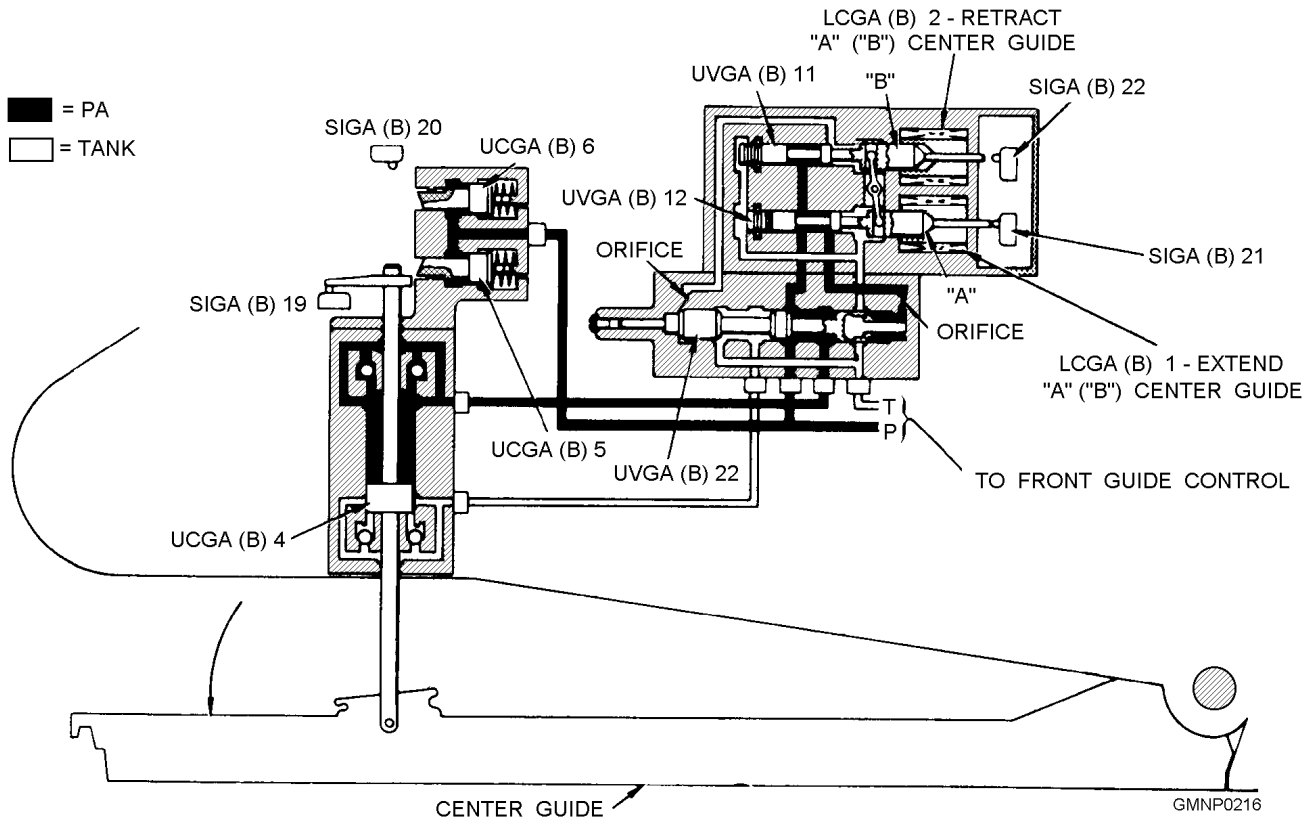
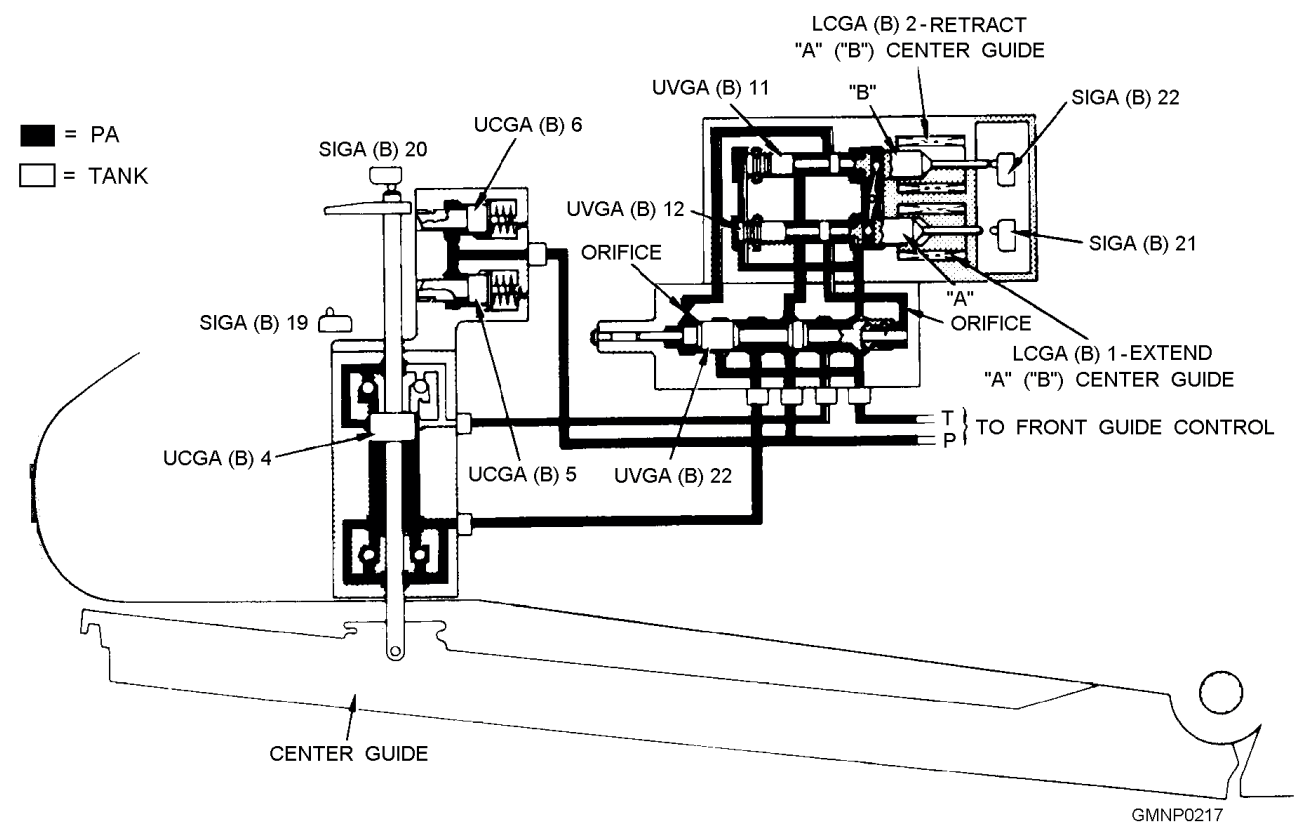
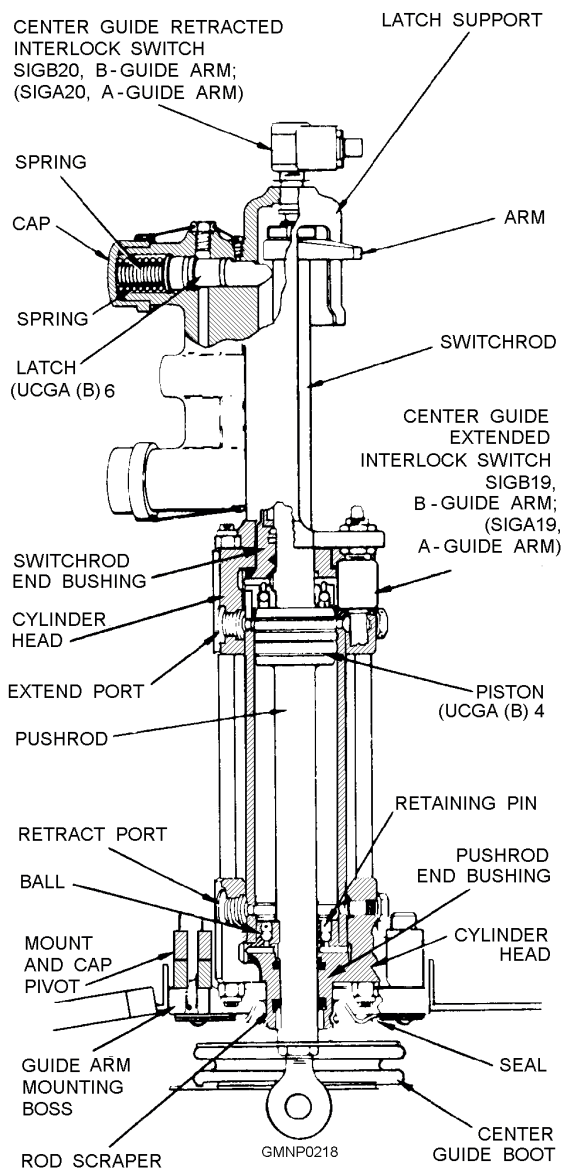

Figure 4-24.—Center guide extended; hydraulic schematic.
Figure 4-25.—Center guide retract; hydraulic schematic.
Figure 4-26.—Center guide hydraulic cylinder.
We will first discuss the hydraulic components associated with the center guide. We will then extend the unit from its normally stowed position. As we describe these hydraulic-mechanical operations, you may find it helpful to compare the two hydraulic schematics in figure 4-24 (extend cycle) and figure 4-25 (retract cycle).
The solenoid assembly (shown in figures 4-24 and 4-25) is identified as LCGA(B)1 and LCGA(B)2. It is a detente type of unit that is mounted to directional valve UVGA(B)22. Hydraulic fluid from the solenoid assembly controls the position of the directional valve.
The center guide cylinder (fig. 4-26) contains a movable piston UCGA(B)4 and four ball type of check valves. These check valves function to restrict fluid flow and slow down or cushion part of the stroke of the piston. The lower pushrod of the piston connects to the center guide casting and moves it. The upper switchrod (and arm) of the piston actuates the extended and retracted interlock switches SIGA(B)20 and SIGA(B)19, respectively. The two spring-loaded latches UCGA(B)5 and 6 (refer to figs. 4-24 and 4-25) extend outward to engage the arm on the switchrod. The upper latch slides under the arm to lock the center guide in its retracted position. The lower latch slides over the arm to lock the center guide in its extended position.
upper latch. After the GMLS is activated, PA is distributed throughout the hydraulic system. Both latches are automatically retracted when PA overcomes latch spring pressure. Since the solenoid is detented, PA is also routed through it and the directional valve to pressurize the bottom (or retract) side of the cylinder. The center guide is held in the retracted position as long as PA is available. The latches will not extend until the GMLS is secured and PA drops below latch spring tension. Figure 4-25 shows the equipment condition just described.
The hydraulic-mechanical actions that extend the A-side center guide begin when solenoid LCGA(B)1 energizes (fig. 4-24). The detente mechanism is released and UVGA(B)12 shifts to the right. This pivots the rocker arm which shifts UVGA(B)11 to the left. The detente mechanism reengages. At this point, the interlock control circuit has done its job and, in effect, is no longer needed. The remaining actions are all strictly hydraulic and mechanical.
The hydraulic-mechanical operations that retract the center guide begin with energizing LCGA(B)2 (fig. 4-25). They basically reverse the extend cycle actions. We will not go into a detailed explanation of this operation. Study and compare the extend and retract hydraulic schematics and you will see the differences. Retract time is 1.17 seconds.
4. Power-off brake (not shown—see figures 4-25 and 4-26)